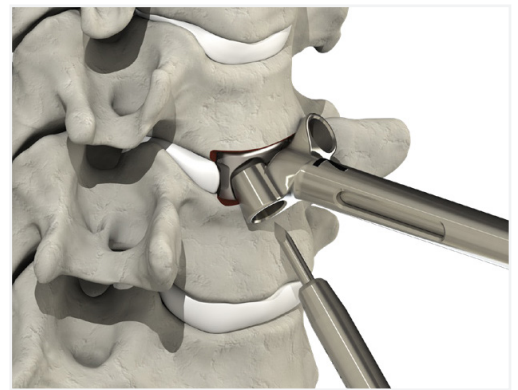

Figure 10
- ▶ Select the desired awl or drill and attach the Quick Connect Handle at the end of the instrument. Insert the distal end of the awl or drill through the Guided Inserter to puncture the cortical bone of the vertebral body (Fig. 10). Repeat this step through both guide holes in the inserter.